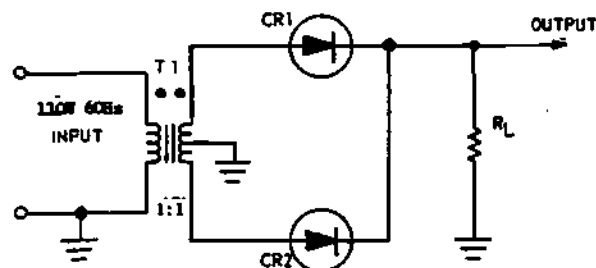

Figure 34-2. Full-Wave Rectifier
10. Calculate the peak output voltage for the circuit in figure 34-2.
11. Trace the current paths through the circuit in figure 34-2 for both alternations of the AC input.
12. Draw the output waveform for the circuit in figure 34-2.
10. Draw the output waveform with voltage levels for the circuit in figure 34-2.